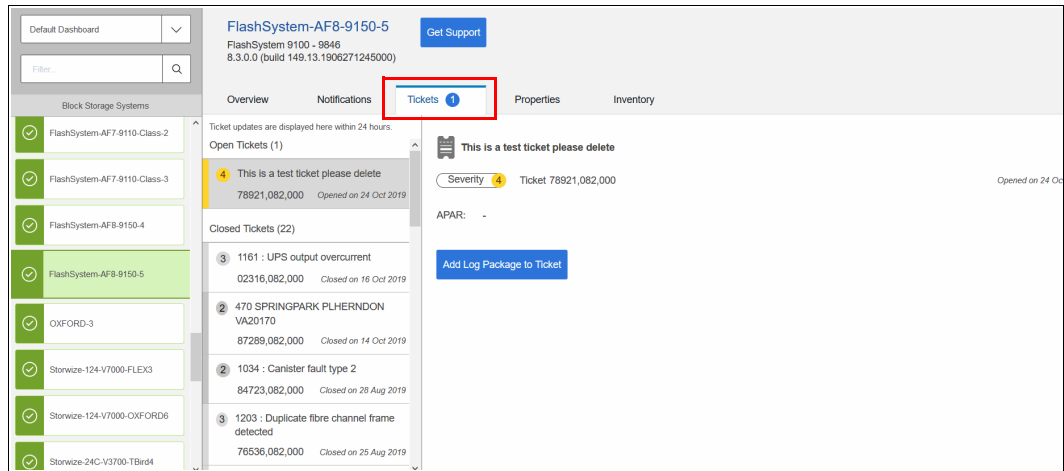

Figure 13-90 View Tickets
1. From the System Overview window, select **Tickets**, as shown in Figure 13-90.